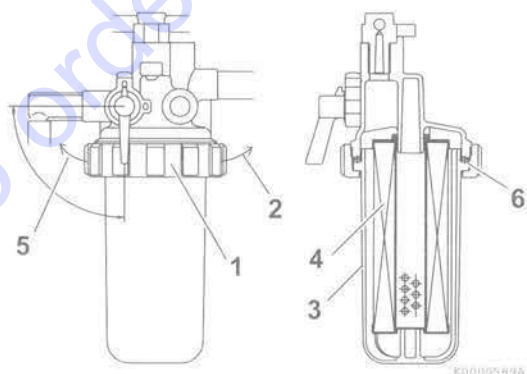

Figure 15
3. Turn the retaining ring (1, **Figure 15**) to the left (**5, Figure 15**).
4. Carefully remove the cup (3, **Figure 15**). Pour the fuel into an approved container and dispose of waste properly. Hold the bottom of the cup with a shop towel to prevent the fuel from dripping. Wipe up any spills immediately.
5. Remove the fuel filter element (4, **Figure 15**) by pulling it down.
8. Check the condition of the O-ring (6, **Figure 15**). Replace if necessary.
9. Install the cup to the mounting flange and turn the retaining ring (1, **Figure 15**) to the right (2, **Figure 15**). Hand-tighten only.